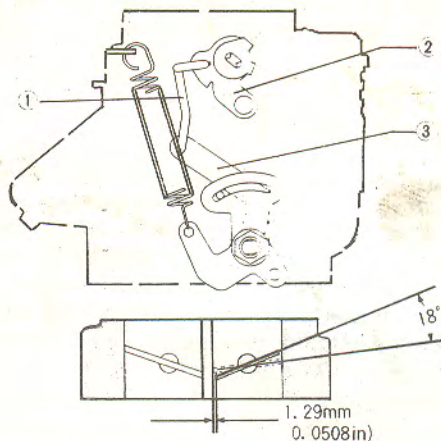

Fig. 1.47. — Details of the fast idle adjustment.
Fast Idle Adjustment: Refer to Fig. 1.47. for details. When the choke valve is fully closed, the primary throttle valve should be open by 18° . To check the setting, insert the shank of a drill of 1.29 mm (0.051 in.) diameter between the primary throttle valve plate and the carburettor bore. If necessary, adjust the setting by bending the fast idle connecting rod (1).